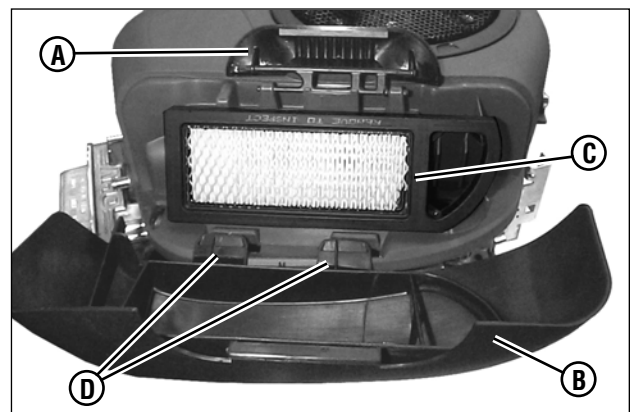

Figure 23: Opening the engine air cleaner cover (Briggs engine shown)
- Pull up and rotate the air cleaner latch (A, Figure 23) to remove the air cleaner cover (B).